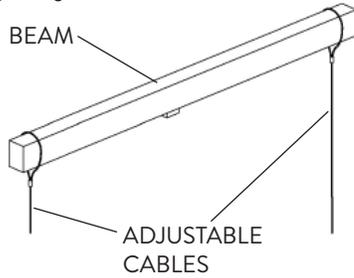

FIG. 10
- 1 The Cable Mount includes an Aircraft Cable pair. Wrap each of the cables around the Ceiling Beam and extend down to the required mounting height (Fig. 10).